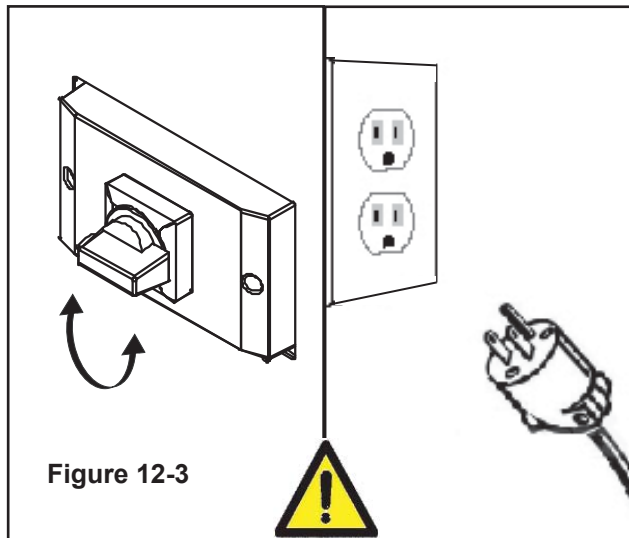

Figure 12-3
Turn the main switch ON (I) after the EMERGENCY BUTTON is released (**Figure 12-3**).
Before carrying out any cleaning or maintenance operation stop the machine by Turning the OFF (O) switch on the main and disconnect the electric power (**Figure 12-3**).